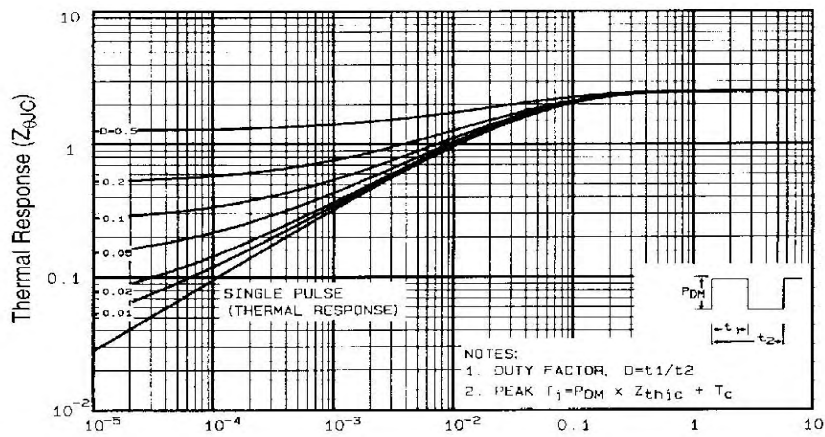

Fig 11. Maximum Effective Transient Thermal Impedance, Junction-to-Case
① Repetitive rating; pulse width limited by max. junction temperature. (See fig. 11)
② $I_{SD} \leq 5.2A, di/dt \leq 95A/\mu s, V_{DD} \leq V_{(BR)DSS}, T_J \leq 150^\circ\text{C}$